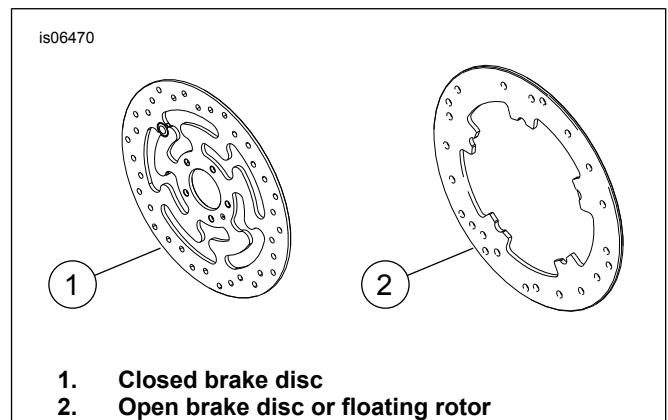

Figure 1. Front Brake Disc Styles
- Brake Disc Screws (See Figure 1. and Refer to Table 1.)